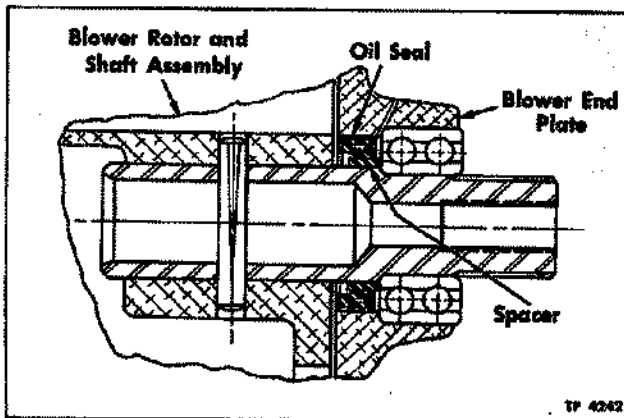

Figure 12—Oversize Lip Type Oil Seal and Rotor Shaft Spacer Installed
2. Press special spacer on rotor shaft until outer edge of spacer is flush with the bearing shoulder using J6270-6 installing tool (fig. 12). Spacer should be .001" press fit on shaft. Use caution when pressing spacer on shaft to prevent distortion of rotor where shaft is pinned in place.
NOTE: When blower rotor shaft special spacer and seal (fig. 12) is used it is necessary that a special Oil Seal Pilot be used when installing rear end plate over blower shafts.